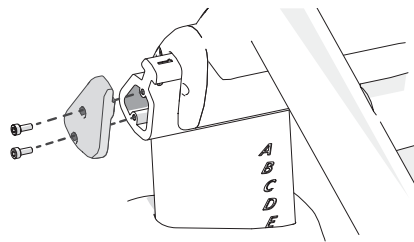

Figure 11
3. Attach the handlebar post end cap **9** using two bolts **3** (Figure 11) and fully tighten with the hex key. **5**